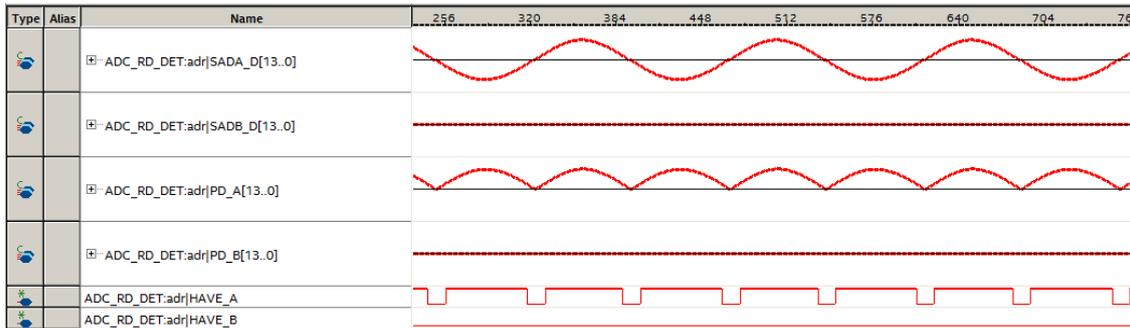

Figure 4-6 Hardware setup for the HIGH-SPEED-ADC
- Connect the output of a signal generator to the SMA connector J21 (ADC-A) or J23 (ADC-B) of ADC-SoC, as shown in **Figure 4-6**.